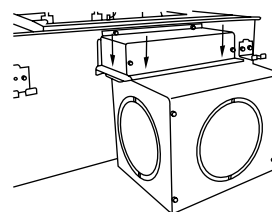

Fig.4
- (4) Connect the external air intake ducting to the flange firmly using the four supplied 4 × 10 PTT screws (see Fig.4).